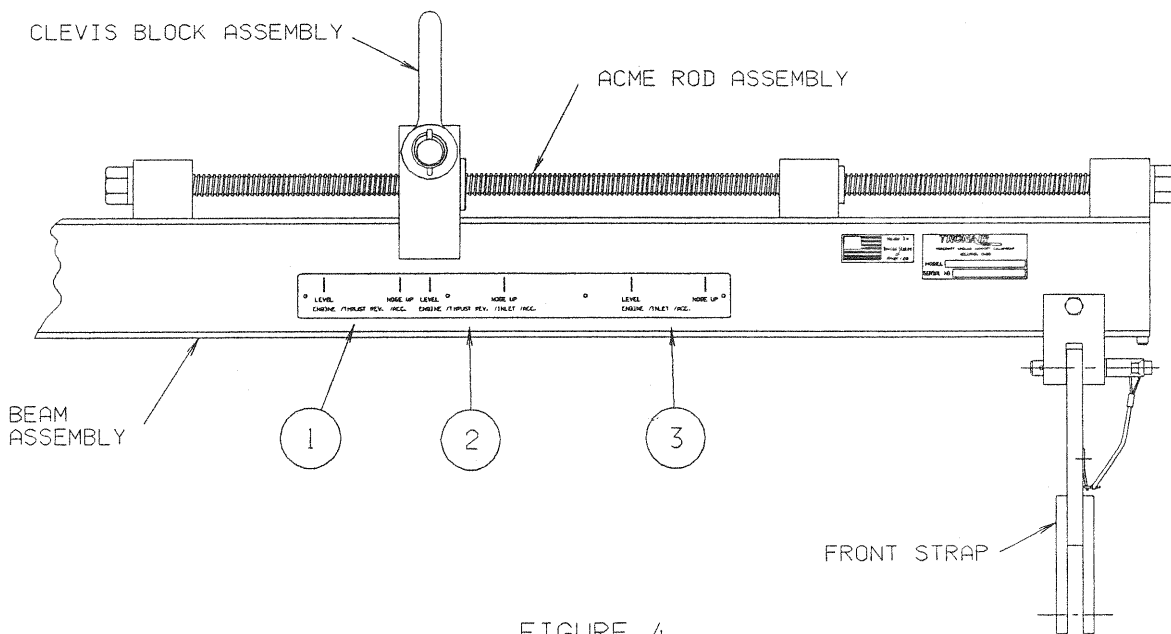

FIGURE 4
- G. The engine sling has three possible CG locations by configuration. Each engine configuration can be “level” or have the “nose up” depending on the position of the clevis block assembly. The clevis block assembly is moved by turning the acme rod assembly (see Figure 4).